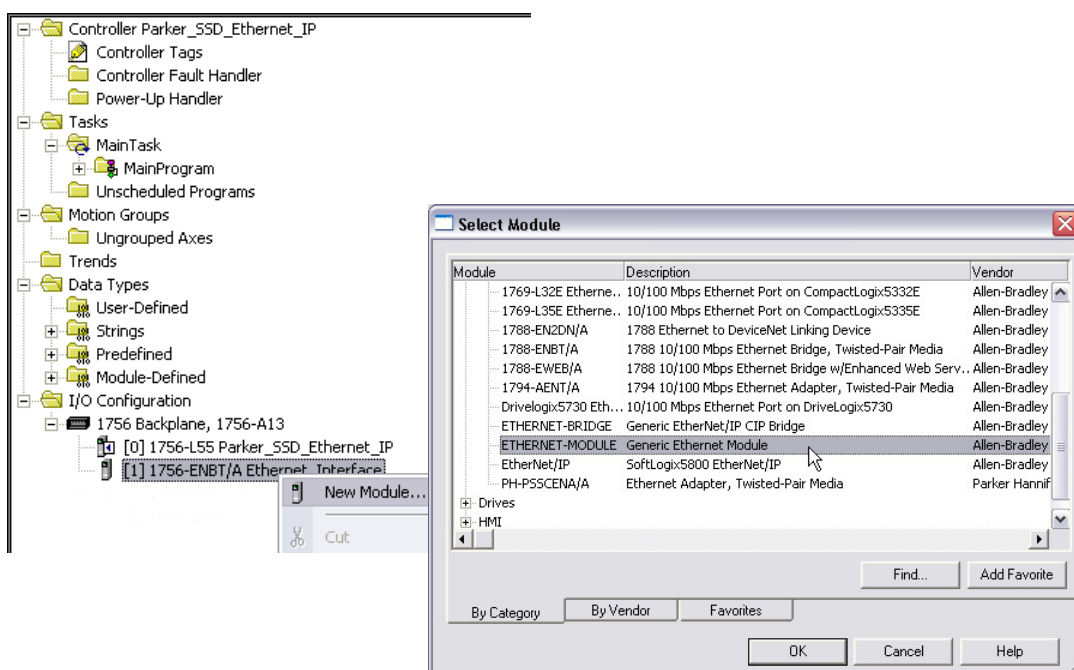

Figure 21. Generic Ethernet Module Select
3. Right click on the Ethernet Interface Module, select New Module. This screen will allow the selection of the Generic Ethernet Module. Refer to Figure 21.